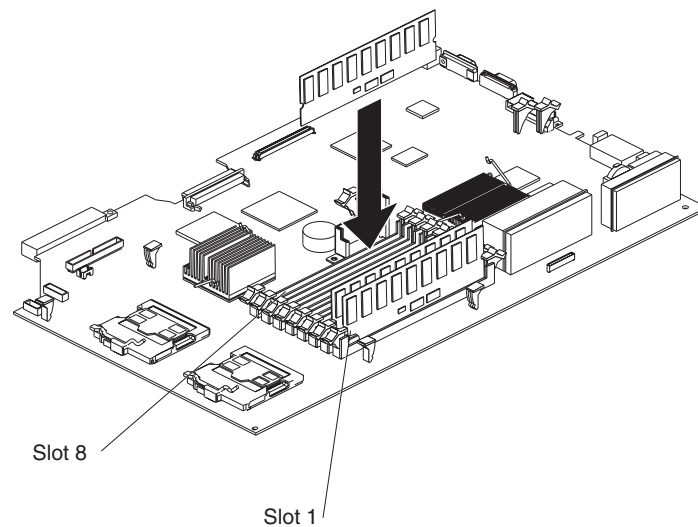

Figure 33. Memory module installation
- You can increase the amount of memory in the server by replacing them with higher-capacity DIMMs or installing an additional pair of DIMMs into the remaining slots. Figure 33 shows the memory slots on the system board.